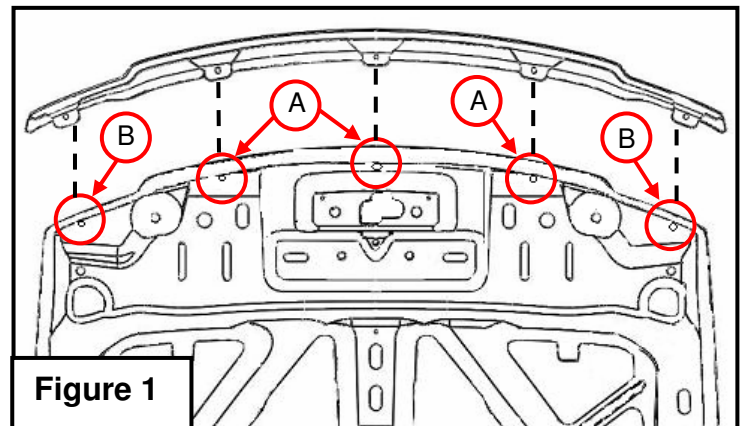

Figure 1
2. Trial fit Hood Shield by aligning the mounting holes of the Hood Shield with the matching holes in the hood. Use figure 1 and 2 as a guide for proper hardware placement.
4. Re-fit Hood Shield to the factory hood by aligning the rubber well nuts up with the factory slots. **(Figure 1)** Attach Hood Shield to the vehicle by installing the center mounting point first and working outwards. Tighten screws just enough to hold hood shield in place.